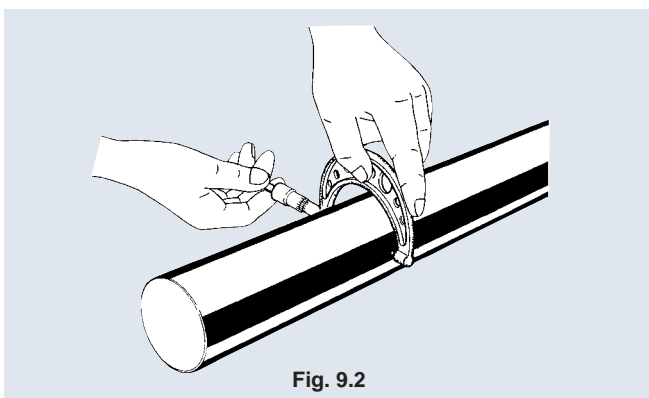

Fig. 9.2
- (2) Make sure that the shaft is free from bends or other damages and that it has been dimensioned and formed as specified. **(Fig. 9.2)**